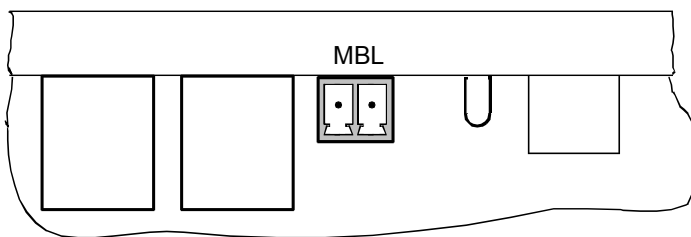

Fig. 6
- Wire line signal MOBALine to the "MLB" plug (Fig. 6). The clock runs to 12 o'clock position.